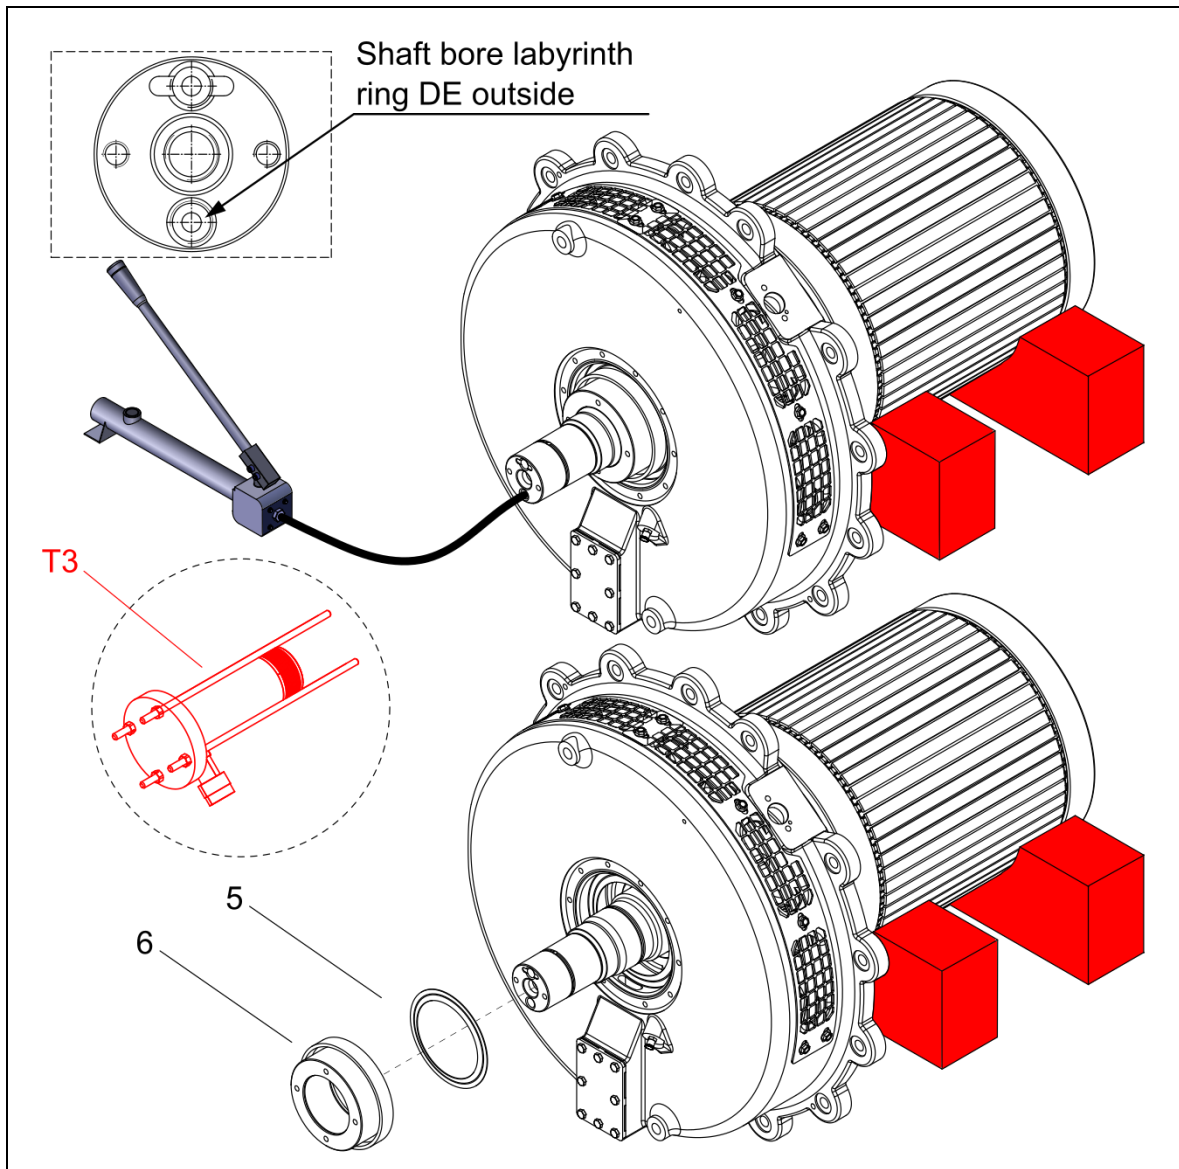

Figure 23: Removing outer labyrinth ring DE
- 13 Attach the hydraulic pump to the bore according to the Figure 23.
- 14 Apply pressure until oil leaks between the mating surfaces of the rotor's shaft and labyrinth ring DE (6).
- 15 Slide off the labyrinth ring DE (6) from the rotor's shaft. If necessary, use hydraulic cylinder assembly (T3) to remove the labyrinth ring DE (6).
- 16 Remove the grease retaining ring (5).